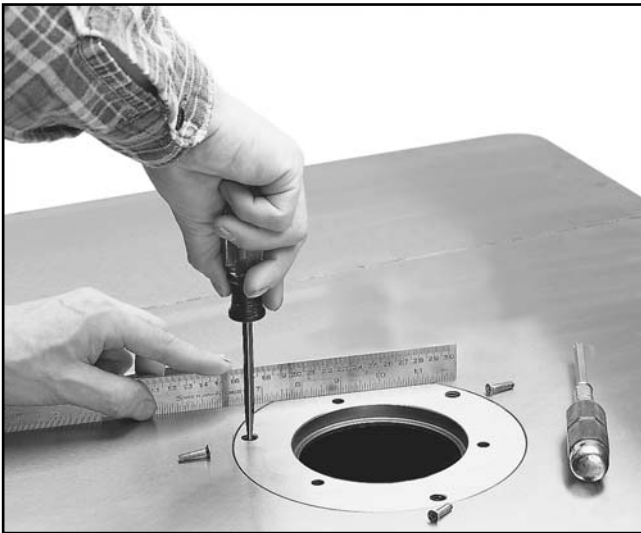

Figure 28. Leveling table insert.
2. By using a straightedge and a screwdriver, turn the barrel screws clockwise or counter-clockwise to level the cast iron insert with the table. **See Figure 28.**